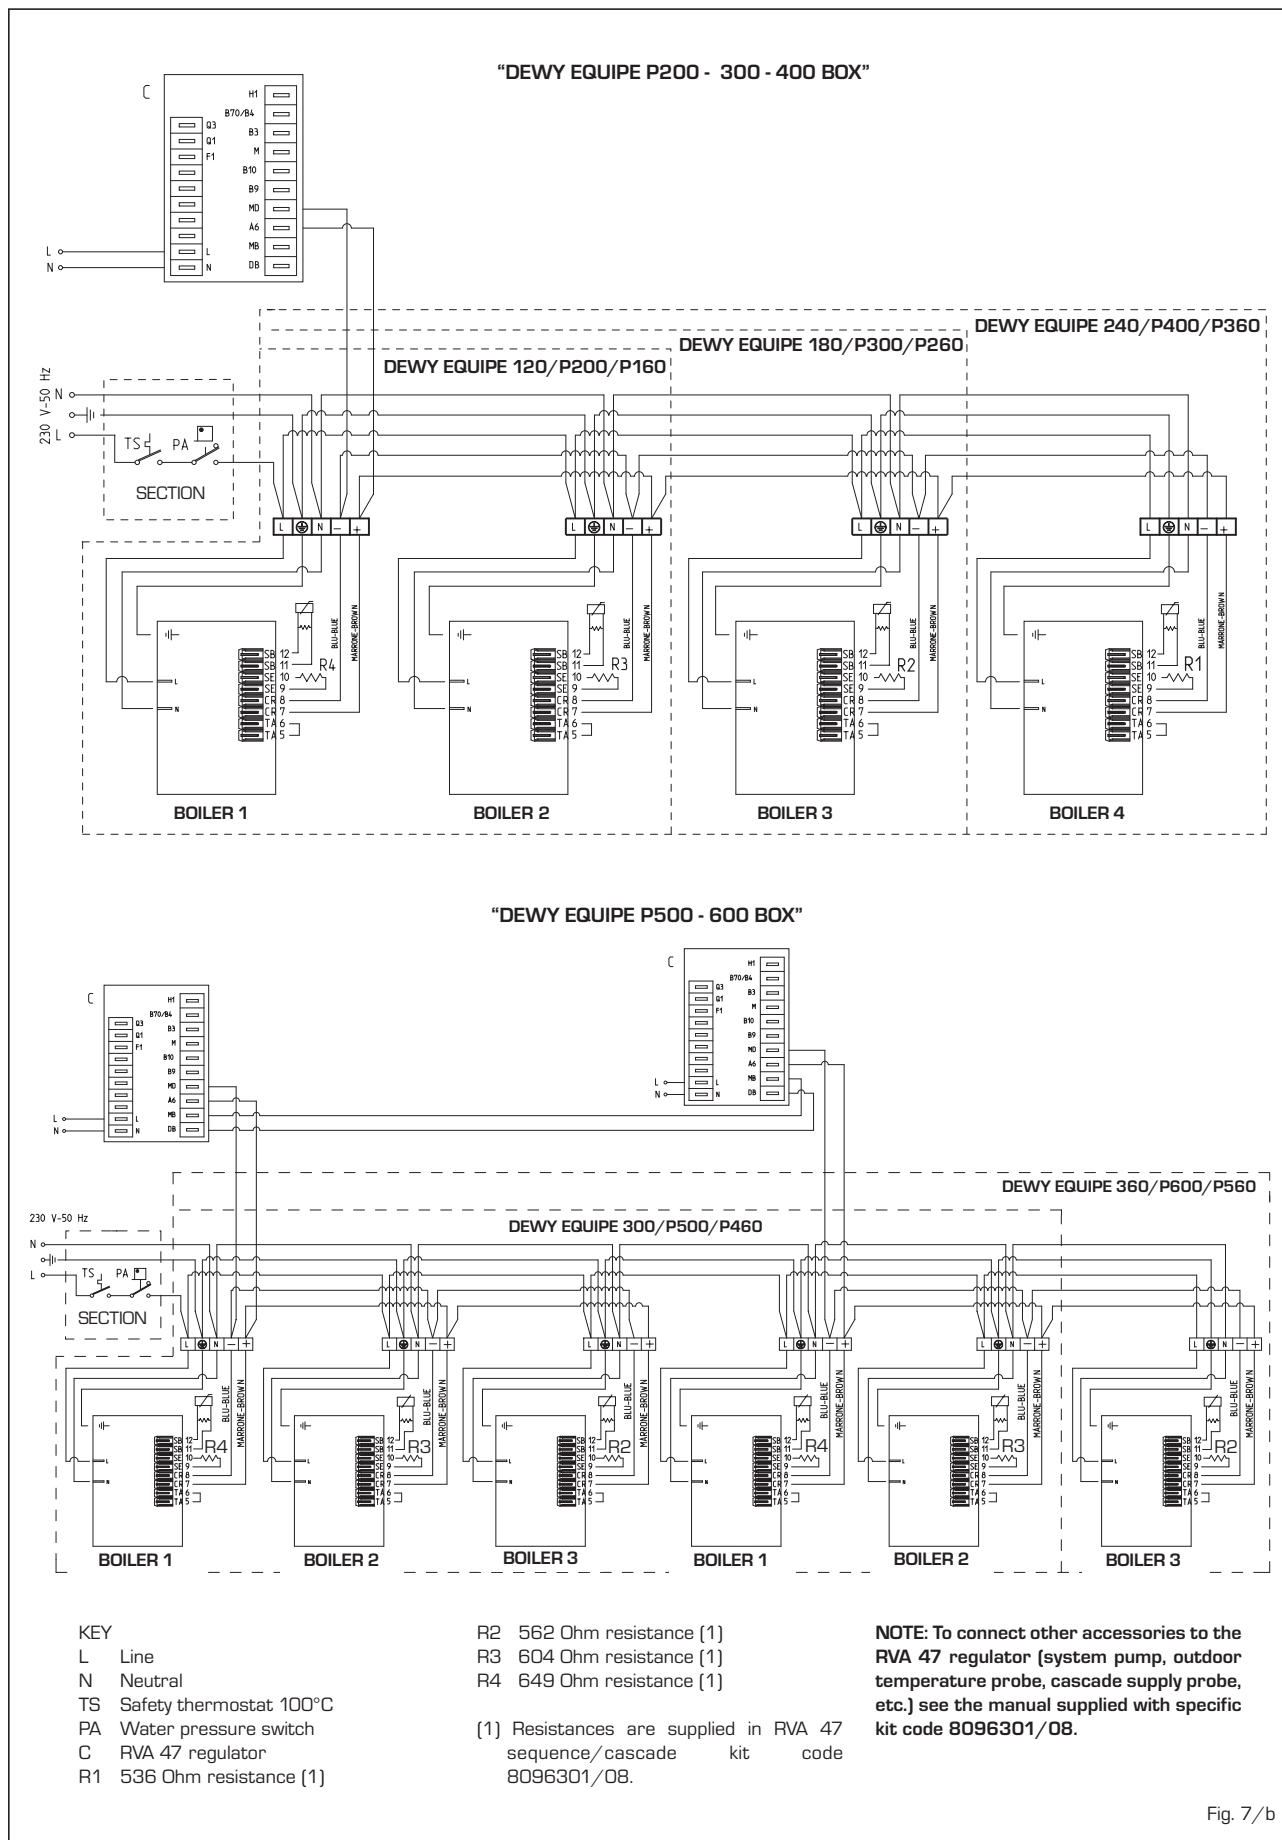

Fig. 7/b
The kit code 8101524 supplied as option for "DEWY EQUIPE P100-200-300-400 BOX" models it is formed (fig. 7):
The kit code 8101525 supplied as option for "DEWY EQUIPE P500-600 BOX" models it is formed (fig. 7/a):
2.8.1 Electrical sequence/cascade and safety kit connection [fig. 7/b]
Perform the wiring connections to the junction box as shown in the layout of figure 7/b.
Remove the two upper screws from the shunt box supplied with the box and adjust the box cover downwards. Remove the black orifice cap and insert regulator RVA 47. Connect regulator RVA 47 to the power supply, as shown in the layout of Figure 7/b. After completing the connection, close the box cover.